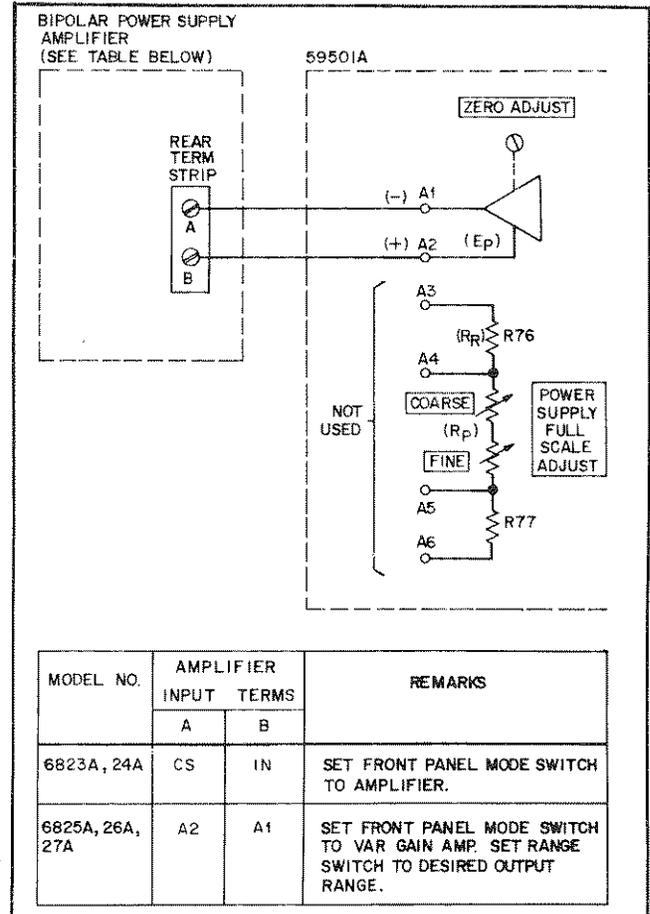

Figure 3-11. CV Programming Connections for Bipolar Power Supply Amplifiers 6823A-6827A
- b. Connect 59501A to BPS/A as shown in Figure 3-11.